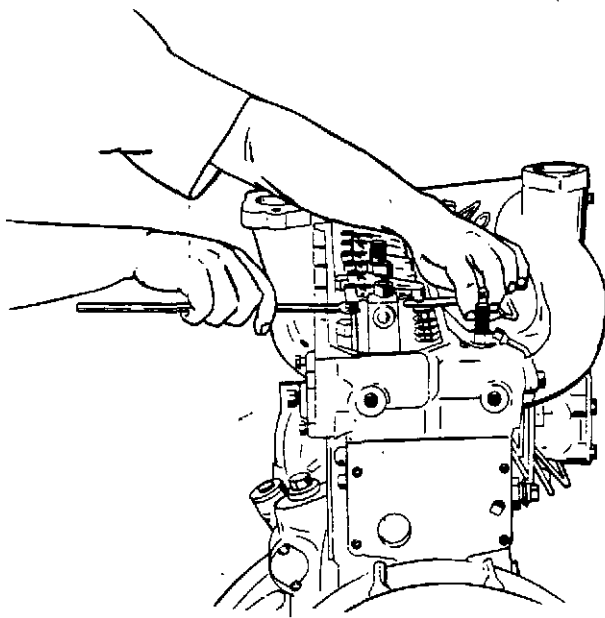

Figure 3-2. Valve Clearance Check and Adjustment
(1) Start the engine and allow it to warm to operating temperature.
(2) Remove the cylinder head cover and gasket.
(3) With the engine running at slow idle, check for 0.015 inch clearance between the rocker arm and end of the valve stem, using a feeler gauge as shown in figure 3-2.
(4) If the valve clearance is incorrect, adjust the setting of the adjusting screw to provide the required clearance. Refer to figure 3-2. When properly adjusted, there will be a slight drag on the feeler gauge with the valve in the unoperated position.